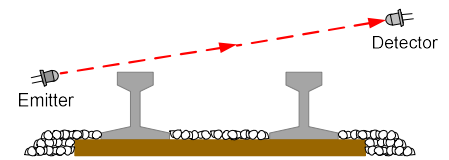
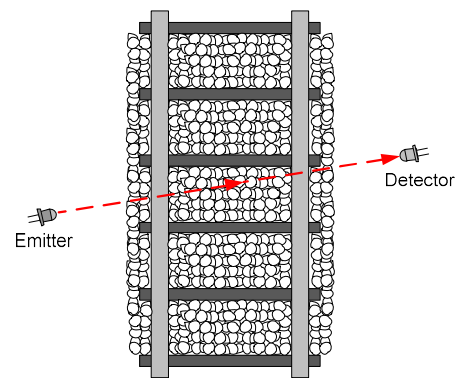

Figure 11a
Figure 11b
With this sensor mode and physical arrangement a train is detected when the infrared (IR) beam is broken by the train. The IR components should be located across the track as shown in Figure 11a and 11b; the distance between them has been tested up to 16 inches. The detectors (dark lens, blue and black wires) should be mounted with a slight downward angle to minimize the possibility of false triggering from visible light sources; this is illustrated in Figure 11a. We would also recommend that you angle the emitters and detectors across the track as shown in Figure 11b. This will minimize false “clear” situations due to the space between rolling stock. You can bend the IR emitter and detector components IF you are VERY careful and, preferably, use a pair of “smooth jaw” (no teeth/serration) pliers!! Make the bend on the IR component NO CLOSER than 0.5” from the tip. You don’t want to pierce the insulated heat shrink tubing and potentially cause a short. We also recommend that you place some “tubing” (e.g. 3.5mm heat shrink tubing) over the end of each emitter and detector in order to make the IR beam path more direct (like a tunnel).